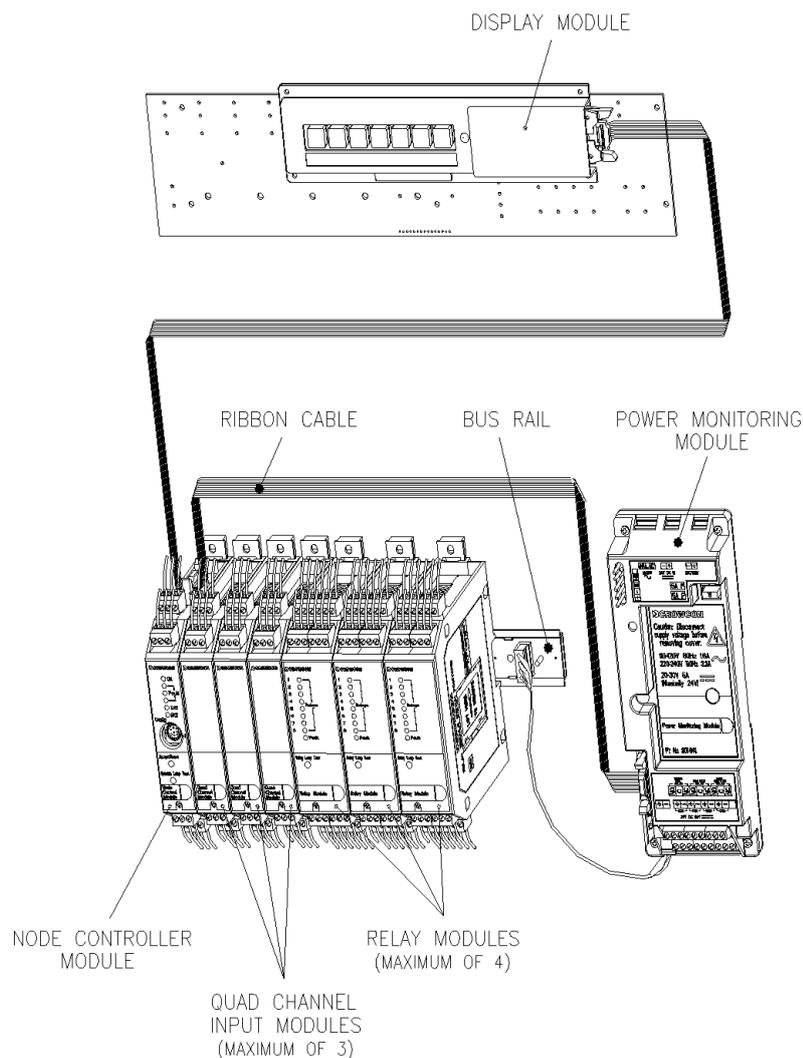

Figure 1: General Assembly of Vortex Modules
Figure 1 shows the general assembly of the modules within the Vortex system. The number and arrangement of the modules will vary depending on your Vortex system configuration.
Figure 1 shows the layout of the modules within the Vortex system. The number and arrangement of the modules will vary depending on your Vortex configuration.
4. Assemble the modules on the Bus Rail(s). To reduce interference with the input channels when switching heavy loads, the Relay Output Modules should be on the right of the Quad Channel Input Modules. The Node Controller Module should be at the left, as in Figure 1. Instructions for mounting and removing modules on the DIN Rail are in section 7.8.